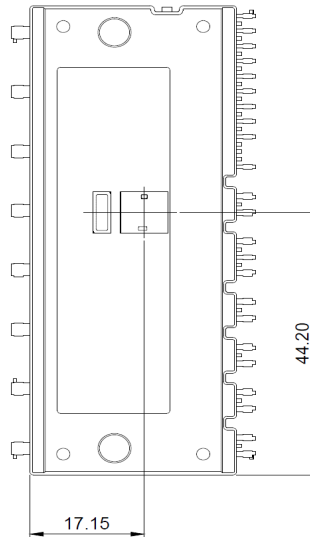

Figure 10. Case Temperature ( $T_c$ ) Detecting Point
3. For the measurement point of case temperature ( $T_C$ ), please refer Figure 10.